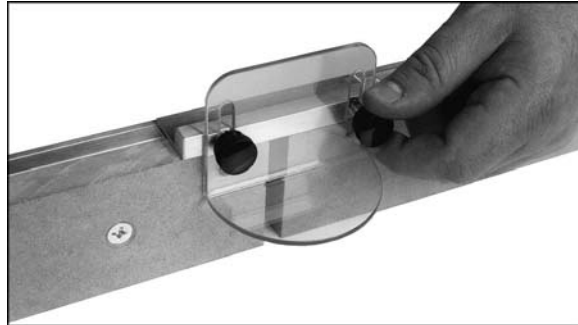

Figure 12
6. Mount the adjustable fence guard to the bridge on the fence bracket with the two fence guard knobs (Fig. 12).